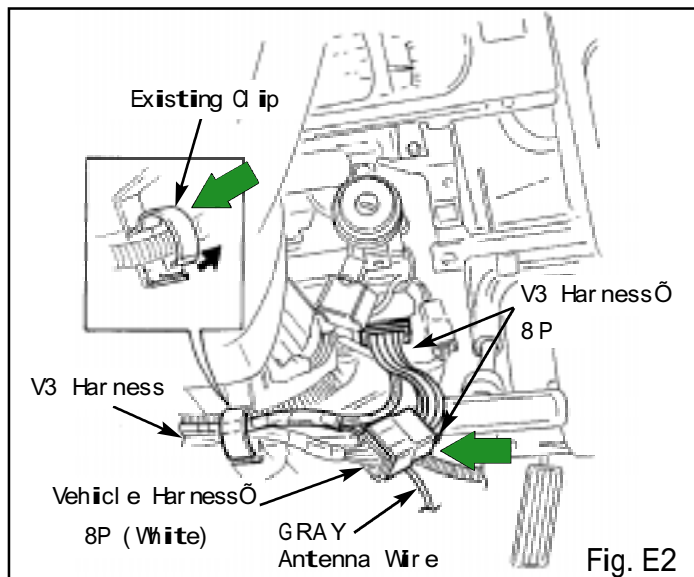

Fig. E2
2. Plug in the V3 harness 8P connectors between the vehicle harness 8P connector and the ignition switch. (Fig. E2)
3. Secure the V3 harness with the existing clip. (Fig. E2)